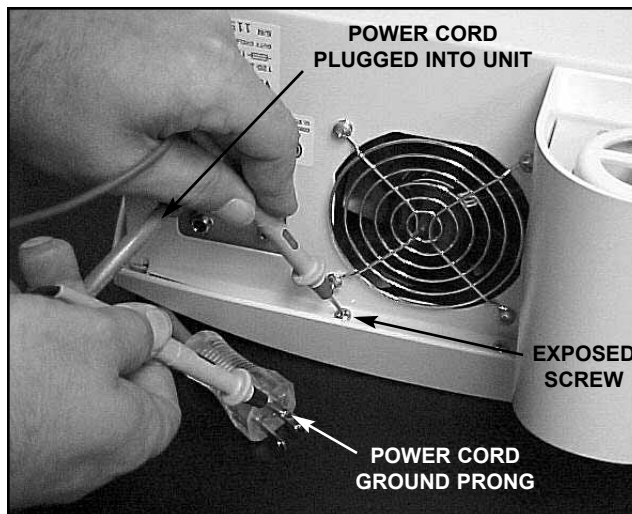

FIGURE 5.1
3. Place one meter probe on the Ground Prong of power cord and the other to any exposed screw on the unit. See Figure 5.1.